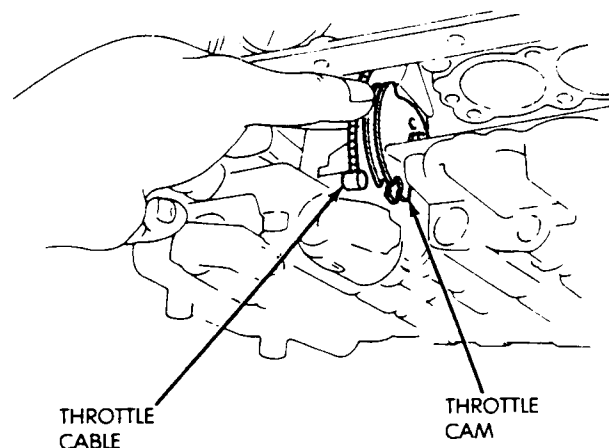

Fig. 27 Removing/Installing Throttle Cable
- (1) In engine compartment, disconnect cable from throttle linkage. Then compress cable mounting ears and remove cable from linkage bracket.
- (2) Raise vehicle.
- (3) Remove transmission oil pan.
- (4) Disengage cable from throttle valve cam (Fig. 27).
- (1) Lubricate and install new seal on cable.
- (2) Insert cable in transmission case.
- (3) Attach cable to throttle cam (Fig. 27).